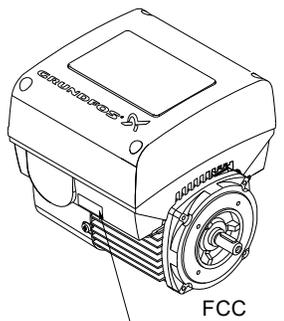

Fig. 18 FCC label
10. If the CIM module is supplied with an FCC label, then place the label on the terminal box. See fig. 18.